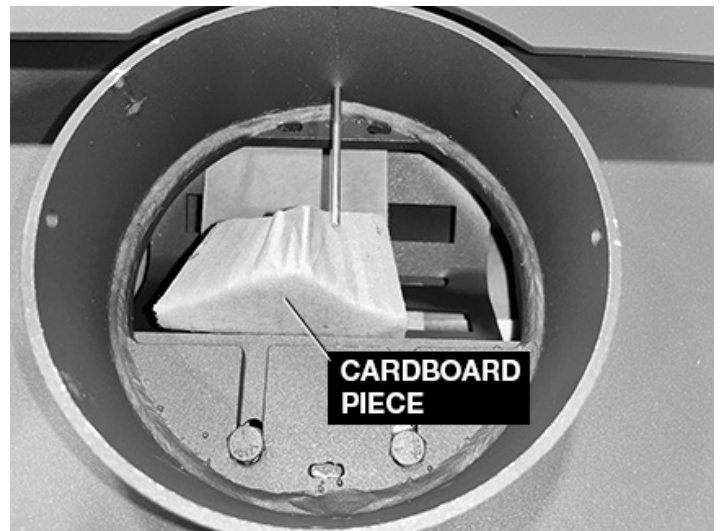

Figure 10: Cardboard piece.
2. Remove the piece of cardboard holding the flue gas agitator in place. Figure 10